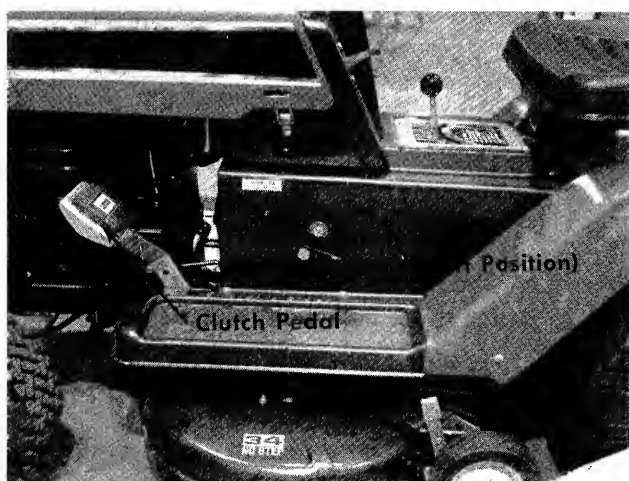

FIGURE 10. LEFT HAND CONTROLS
f. **Clutch Lockout.** When the clutch pedal is depressed all the way it can be locked by placing the clutch lockout in the START position as shown in figure 10. The clutch lockout must be in this position before the engine will start.
g. **Stop Lever.** The stop lever allows you to regulate the maximum ground speed of the riding mower by setting the stop lever in any one of the five settings. The farther forward the stop lever is set, the faster the ground speed. See figure 10.
Step 2. Place the clutch lockout in the START position. See figure 10.